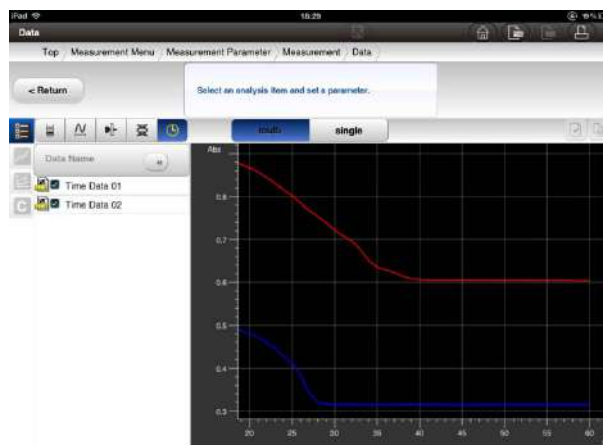

Fig. 5-70 Multi-Spectra Display Window
- (2) Click the checkbox for the spectral data files to be displayed in a stack. You can select up to 10 spectral data files.
- (3) When you press the [Multi-Display] button **multi**, the spectra are displayed in a stack (Fig. 5-70).